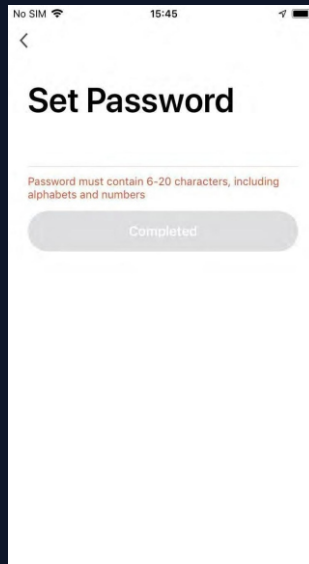

Fig. 4
4. Enter the new password and click **"Completed"** to log in, as shown in Fig. 4.